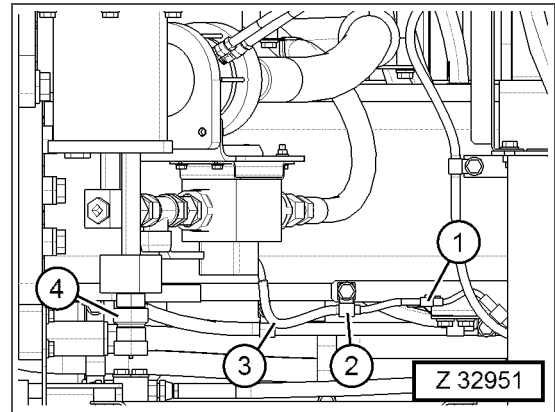

Fig. 3-514
- 34. Connect the harness connector (Fig. 3-514, Pos. 1).
- 35. Assemble the clamp (Fig. 3-514, Pos. 2) to attach the wiring harness (Fig. 3-514, Pos. 3).